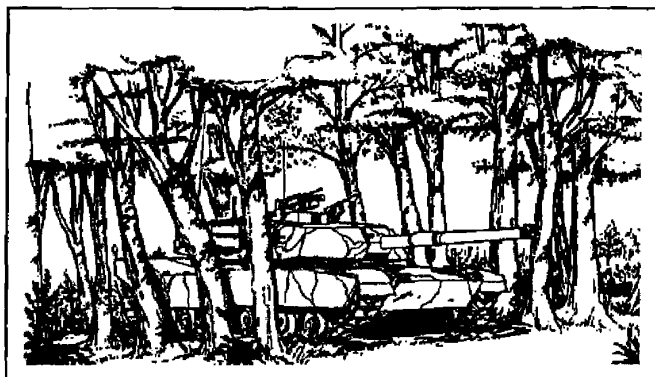

Figure 071-329-1030-1. Vehicle capabilities
(1) Most military vehicles can knock down a tree. Larger vehicles can clear more trees but cannot knock down several trees at once. Find paths between trees that are wide enough for the vehicle (figure 071-329-1030-1).